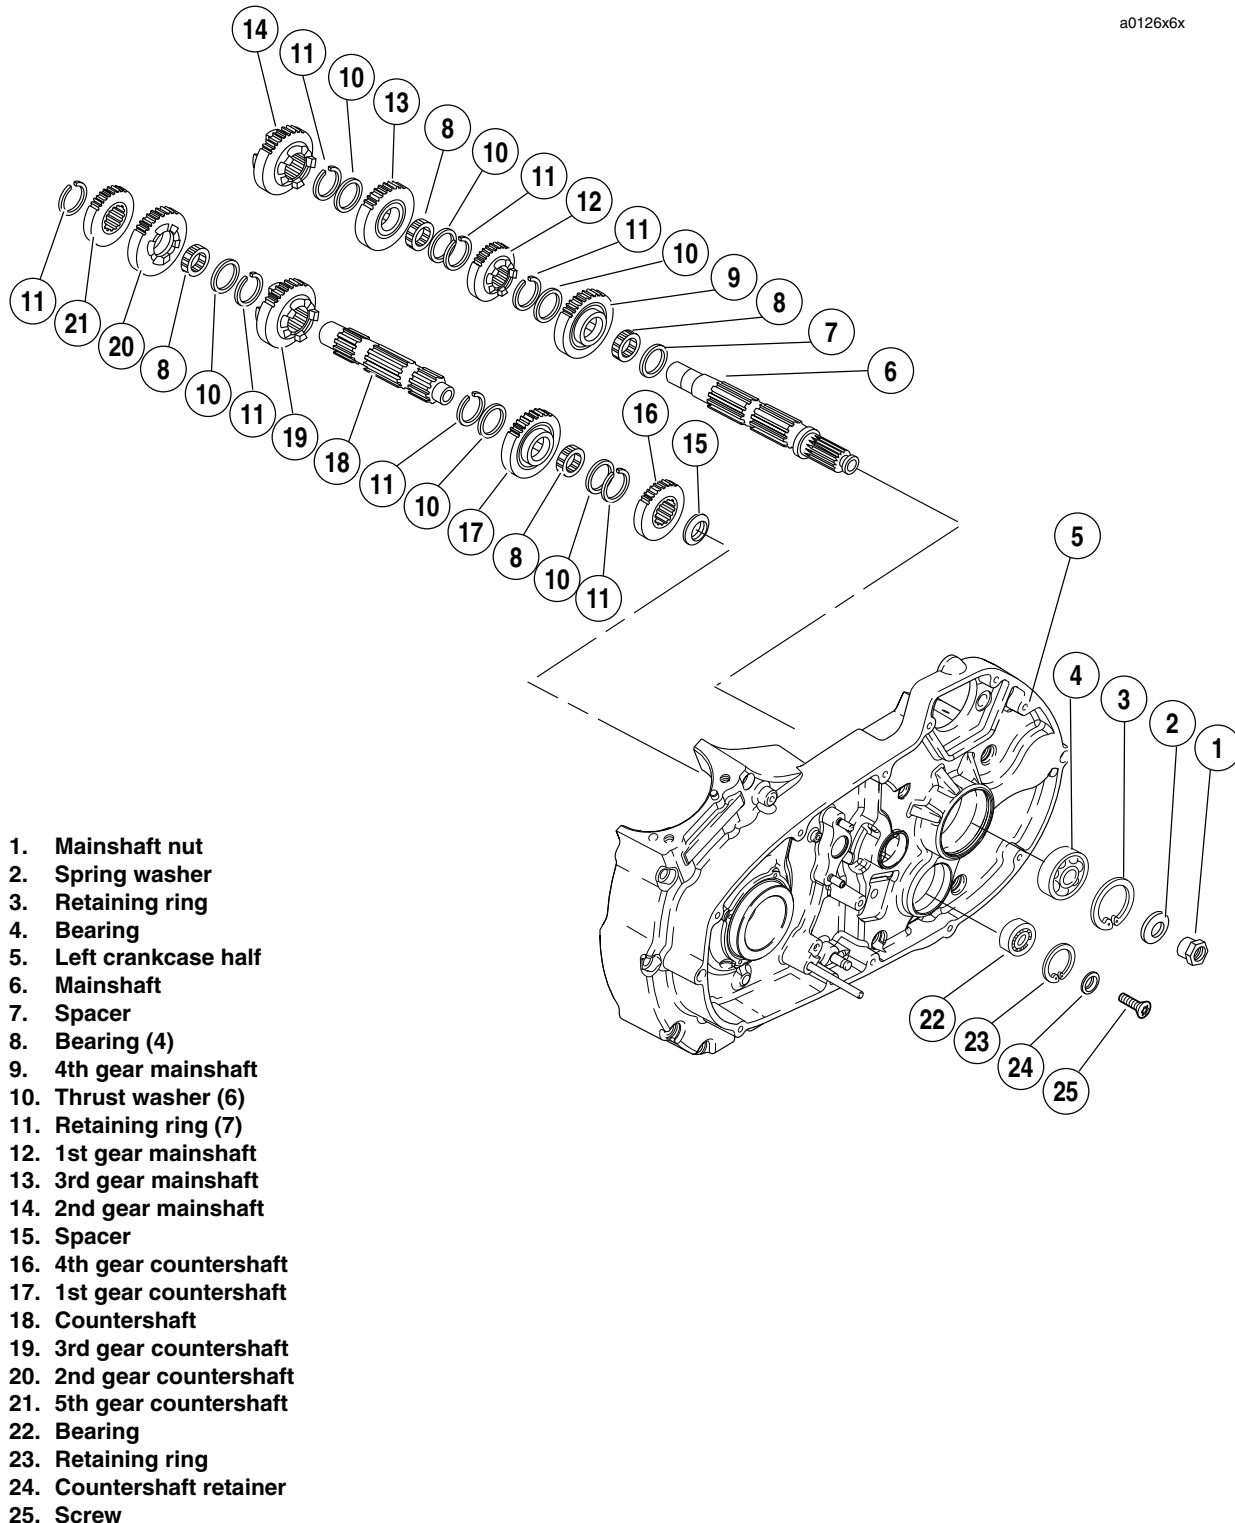

Figure 6-34. Transmission Assembly Left Crankcase Half
1. See Figure 6-34. Install **new** retaining ring (11) and thrust washer (10) onto mainshaft (6) in the first ring groove from the end.
2. Install split bearing (8) onto mainshaft.
3. Locate mainshaft 4th gear (9), which can be identified by the two radial grooves at one side. Slide gear (9) onto shaft. Position gear over bearing (8) next to spacer (7).
4. Place spacer (7) over mainshaft and position next to split bearing (8).
5. Slide mainshaft 1st gear (12) onto mainshaft with the fork groove facing 4th gear (9).
6. Install thrust washer (10) and **new** retaining ring (11) next to mainshaft 1st gear (12).
1. See Figure 6-34. Install **new** retaining ring (11) and thrust washer (10) onto countershaft (18) in the second ring groove from the end.
2. Install split bearing (8) onto countershaft.
3. Locate countershaft 1st gear (17), which can be identified by the two radial grooves at one side. Slide gear (17) onto shaft. Position gear over bearing (8).
4. Install thrust washer (10) and **new** retaining ring (11) next to gear (17).
5. Locate countershaft 4th gear (16). This flat, shoulderless gear is splined and has a single radial groove at one side. Position gear next to retaining ring (11) on countershaft. Place beveled washer (spacer) (15) over end of shaft with beveled side away from countershaft 4th gear (16).
6. Install countershaft 3rd gear (19) on countershaft with fork groove facing away from countershaft 1st gear (17).
7. Install **new** retaining ring (11) on countershaft. Position **new** retaining ring in the second ring groove from the end. Install thrust washer (10) next to retaining ring (11). Install split bearing (8) in seat next to washer (10).